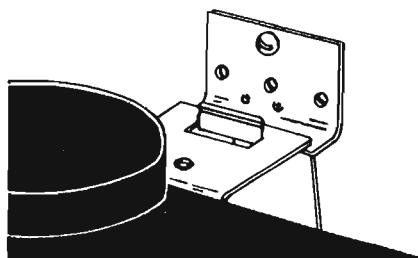

Fig. 11
6.7.7 Lift the boiler and engage the fixing jig hook in the slotted bracket above the expansion vessel (refer to Fig 11). Lower the boiler until it rests on the outward lip of the connecting plate.